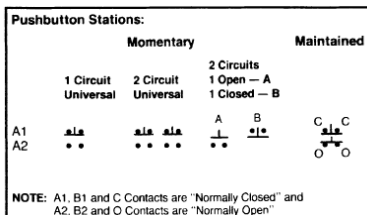

Figure 1A
- Make the electrical connections utilizing the wiring scheme established for your system. See Figures 1A and 1B for the contact diagrams of EFS and EDS Pushbutton Stations and Selector Switches.